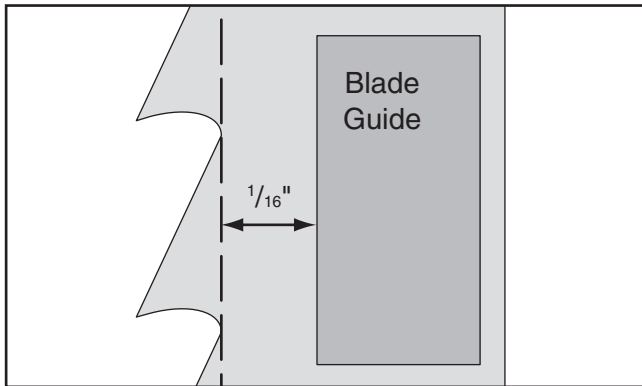

Figure 30. Blade guide positioned approximately $\frac{1}{16}$ " behind tooth gullets.
5. Move the blade guide bracket in or out from the guide post until the blade guides are approximately $\frac{1}{16}$ " (0.063") behind the teeth gullets (see **Figure 30**), then retighten the blade guide bracket cap screw.